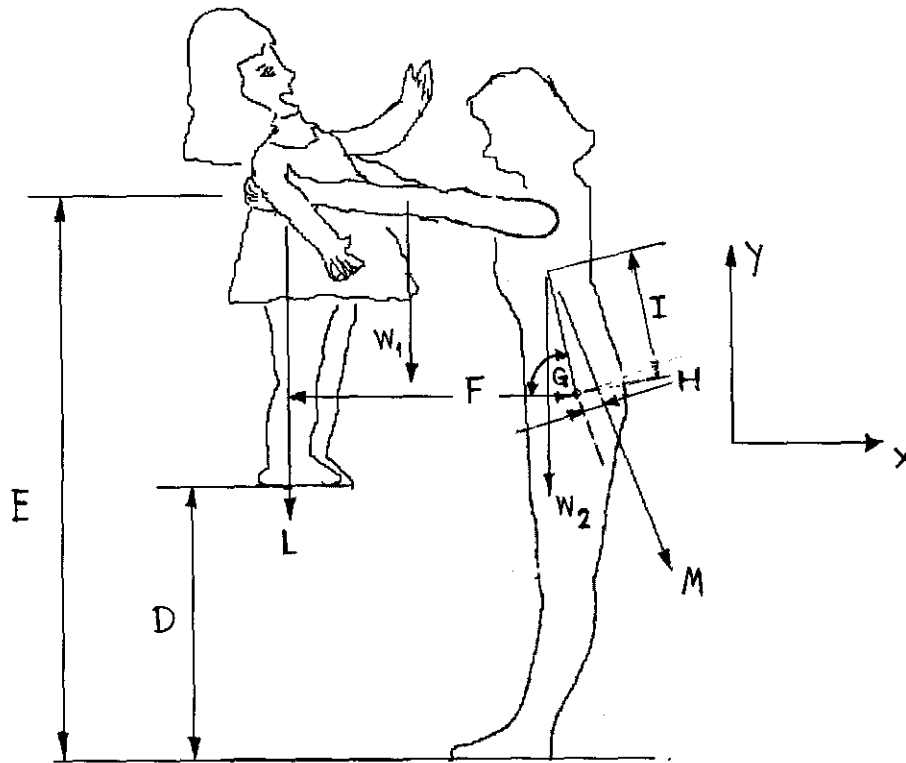

Figure 3: Show posture & all dimensions while a lady is lifting her baby.
3. A 124 lb lady is lifting her 33 lb baby who is standing on the floor to the upper bed (figure 2-3). The weight of some body segments and other important data are given in table 1. The center of mass, for all upper body part of the lady, is located 1 inches from L5/S1 joint as shown in figure 3.